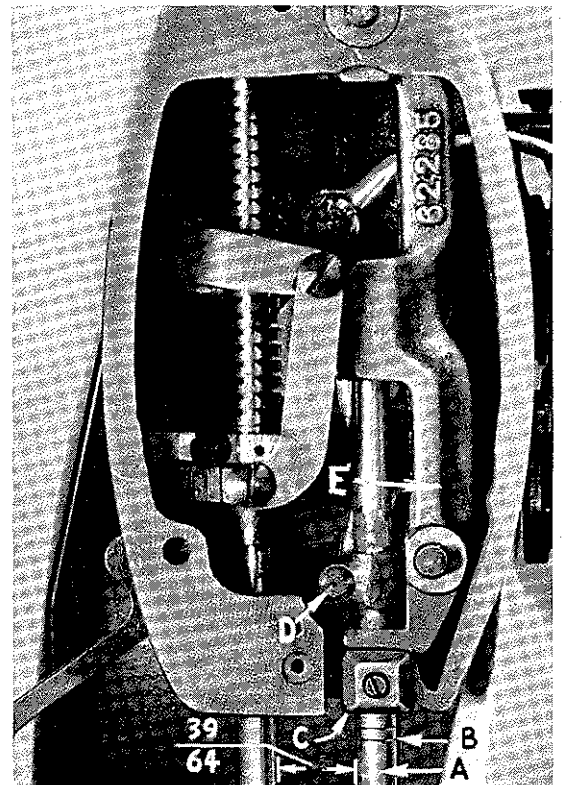
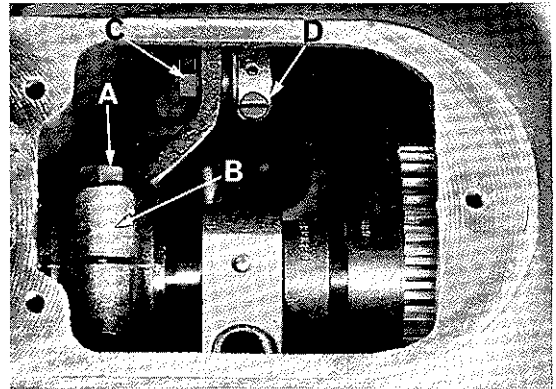

Fig. 7
Fig. 8
The setting of the needle bar (A, Fig. 7) to the proper needle bar height timing line will, in practically all cases, produce the optimum location of the needle loop with respect to the hook point for proper loop pick up.
A maximum "down" position of the needle bar may be established by turning the handwheel in the operating direction until the crank pin and the needle bar connecting link align perpendicular behind the needle bar. (Looking into end as shown by Fig. 7, pin and link cannot be seen).
Needle bar height adjustment is governed by the length of the needle used. Two sets of timing lines (B, Fig. 7) are engraved on every needle bar to assure accurate timing. The upper pair is used when Type 180 GXS or 180 GYS "short length" needles are specified and the lower pair is used with needle Type 182 GA "long length".
To position the needle bar in relation to the presser bar, first set the needle bar at the bottom of its stroke. Then, remove the top reservoir cover at the right end of the machine. Loosen clamp nut (A, Fig. 8) of the feed driving lever (B) and swing the needle bar frame (E, Fig. 7) forward or backward in the line of feed until the factory specified distance of  $39/64$  to  $5/8$  inch is obtained between the needle bar and the presser bar. (Gauge No. 21227 BL is available for measuring this adjustment). After needle bar meets required setting, tighten clamp nut (A, Fig. 8) and re-assemble cover.
If a finer adjustment is necessary, loosen nut (C, Fig. 8) and move ball joint (D) forward or backward as required. Tighten nut (C).
Visually check position of the needles. Make sure their spots face their respective hooks. Now, turn handwheel in operating direction to obtain a maximum "down" position of the needle bar. When this has been reached, continue to turn until lower timing line (of the pair selected) (B, Fig. 7) is flush with the bottom of the lower needle bar bushing. At this time, the hook point should be approximately 1/32 inch above needle eye.